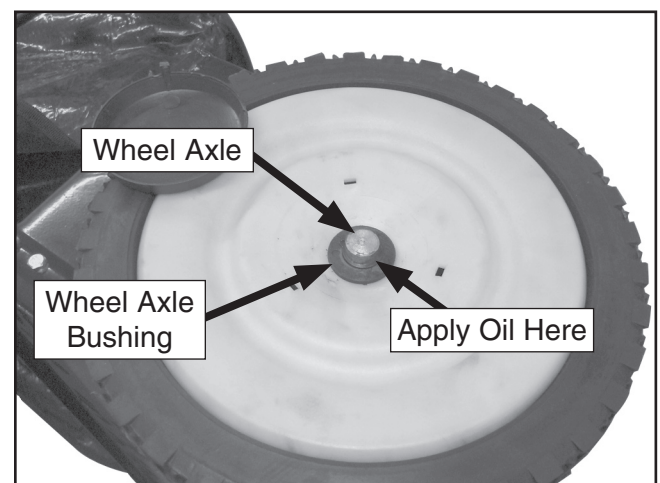

Figure 10. Wheel axle lubrication.
2. With the sweeper still on its side, remove the dust cap on the exposed wheel, then apply a few drops of light oil to the wheel axle, as shown in **Figure 10**, and spin the wheel to distribute the oil.